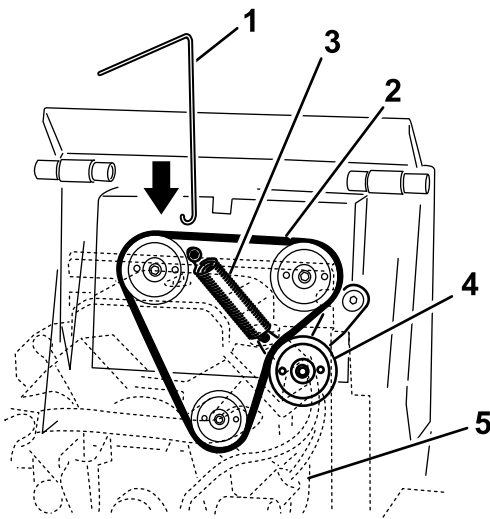

Figure 52
4. Connect the hook on the spring-removal tool to the hook on the idler pulley spring, and disconnect the spring from the stud as shown in Figure 52.